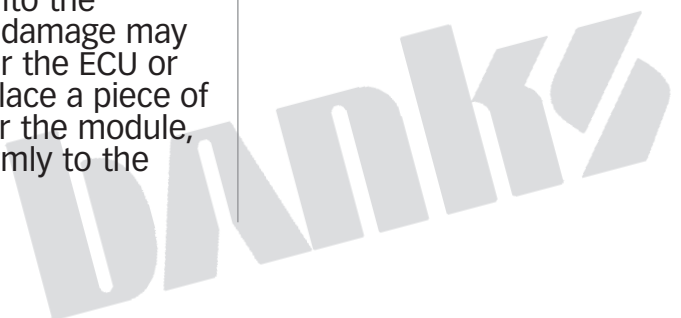

Figure 1
2. Locate the ECU. **1994-1997 models only:** The ECU will be located in a recess in the firewall on the engine side, between the steering column and the left front fender. All that will be visible is an elongated electrical connector and wire loom, surrounded by a retainer plate attached with two nuts. See **Figure 1**. **1999-2003 only:** The ECU will be located under the dash toward the left-hand side of the vehicle. It will be housed in a black plastic box bolted to the side of the vehicle.